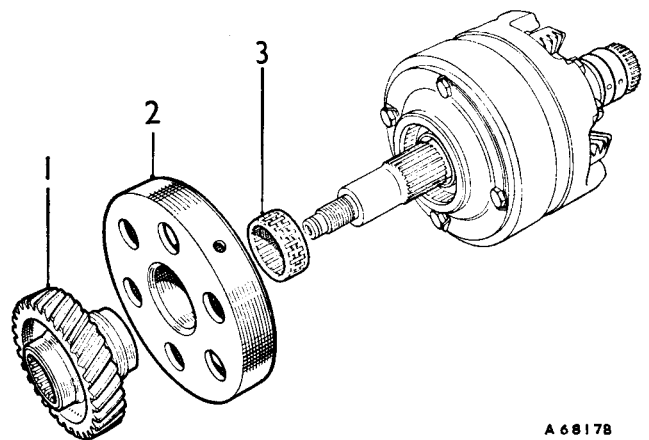

Fig. Fa.55
30. Refit the input gear and needle-roller bearing (see Fig. Fa.55).